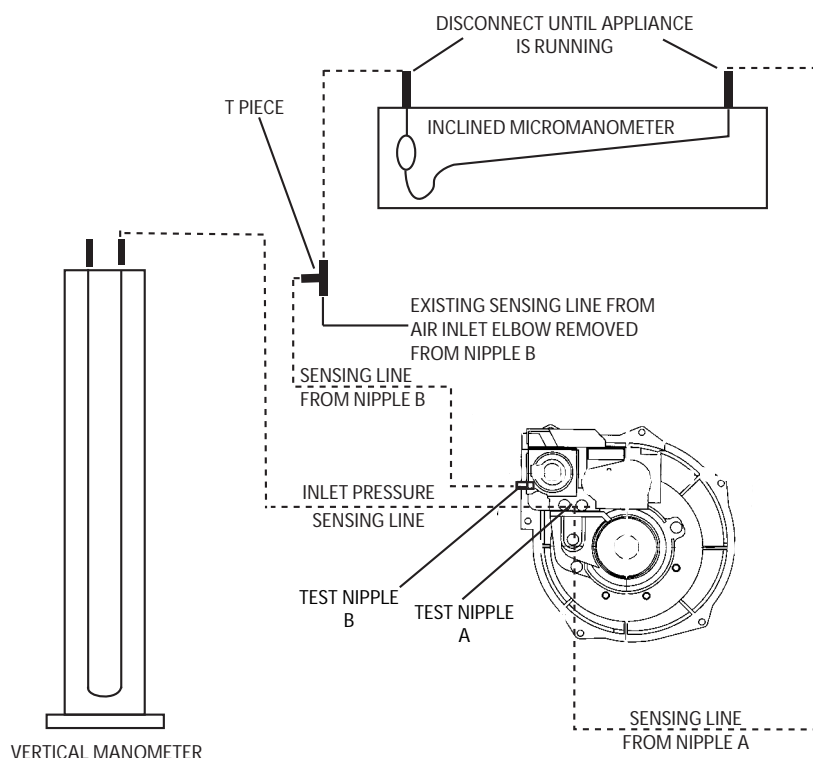

Figure 26
- Turn off the electrical supply and gas supply. Ensure manometers are set to zero refer to Figure 25 and Figure 26.